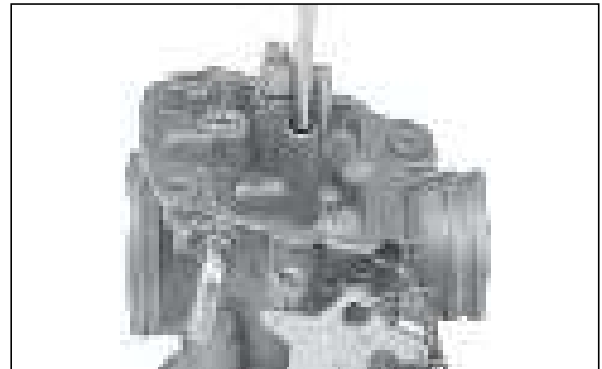

Fig. 4.24
- Using a small flat screw driver, carefully remove pilot jet. (Fig. 4.24)